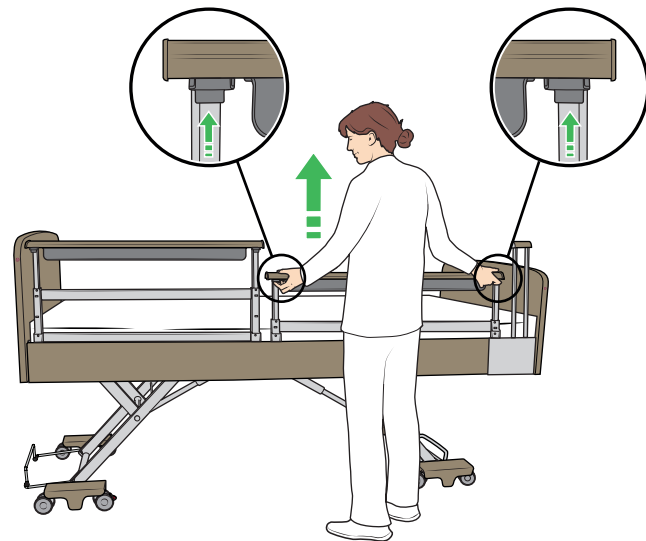

Figure 61
1. Press and hold the buttons and raise the telescopic bed rail to the highest position. See Figure 61.